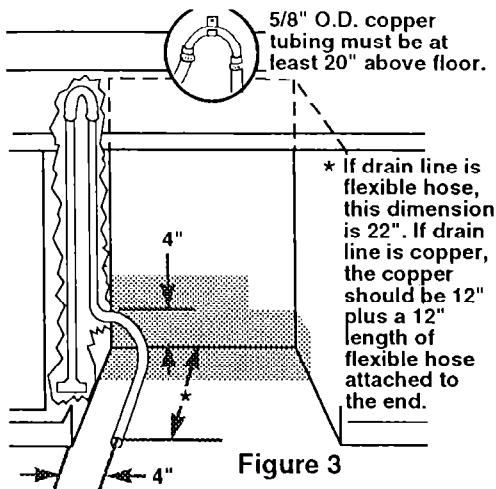

Figure 3
- **If the drain is routed to a connection point less than 20" above the floor, the drain line must form a loop 20" above the floor. See Figure 3, Page 4.**